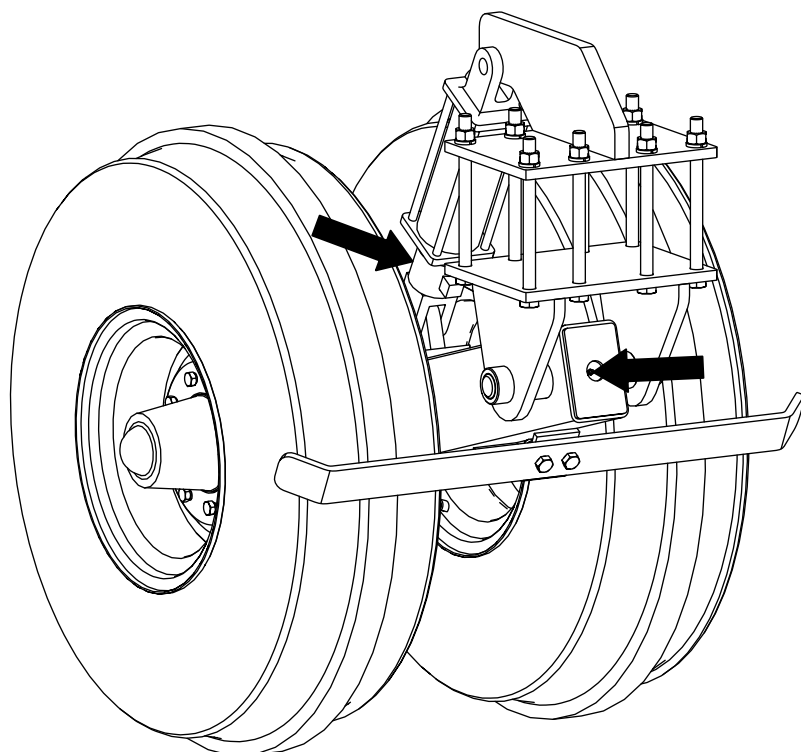

Figure 38 Rigid Struts Zerk and Depth Stop
3. Lubricate depth stop zerks (Figure 38, 41)
4. Lubricate any rigid, steerable, or wing strut component zerks (Figure 38, 42)